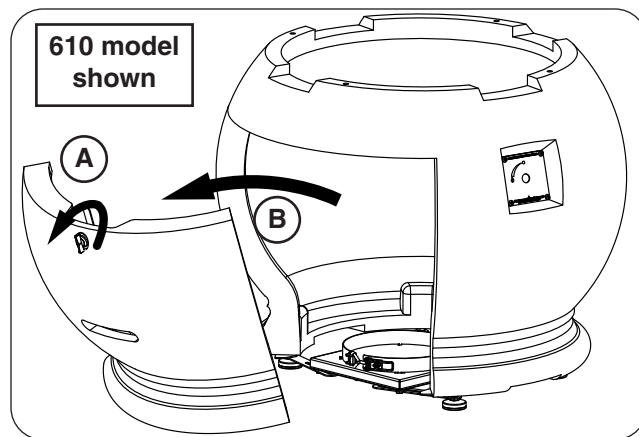

Fig. 27-1 Place base and remove door
1. **Carefully** remove the valve and burner assembly from the base, then **carefully** place the base in an appropriate location (see Fig. 27-1, and refer back to the LOCATION section if needed).
2. Remove the storage door by first turning the door handle counter-clockwise, then carefully pulling the door outward (see Fig. 27-1). Store in a safe location.